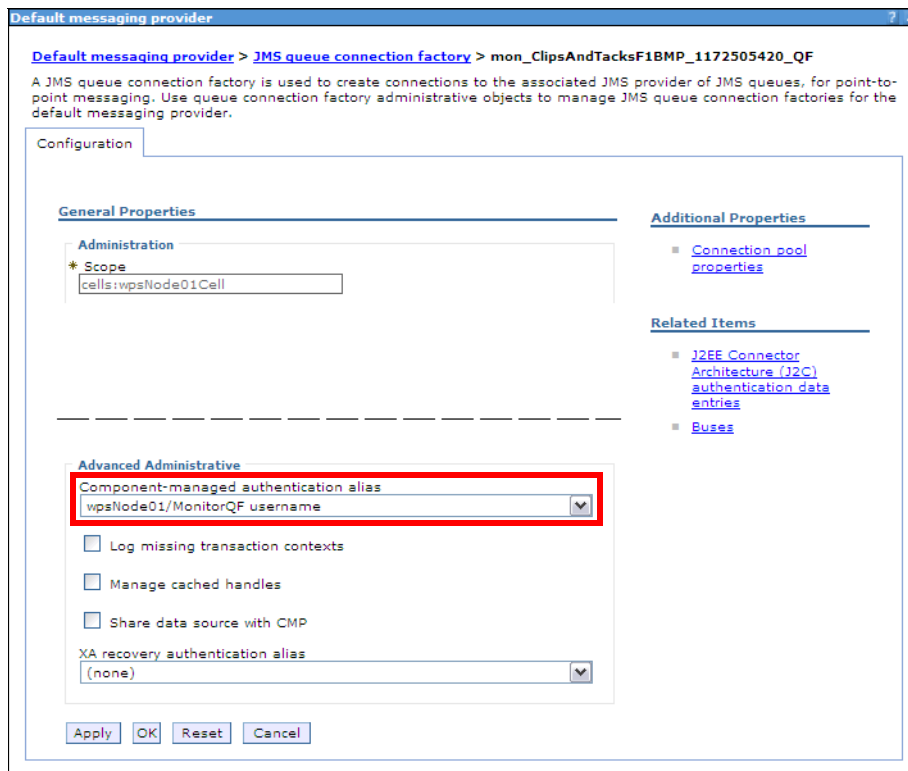

Figure 14-23 JMS queue connection factory: Authentication alias for writing to the queue
- ▶ On the following panel (Figure 14-23) scroll down to the bottom of the panel.